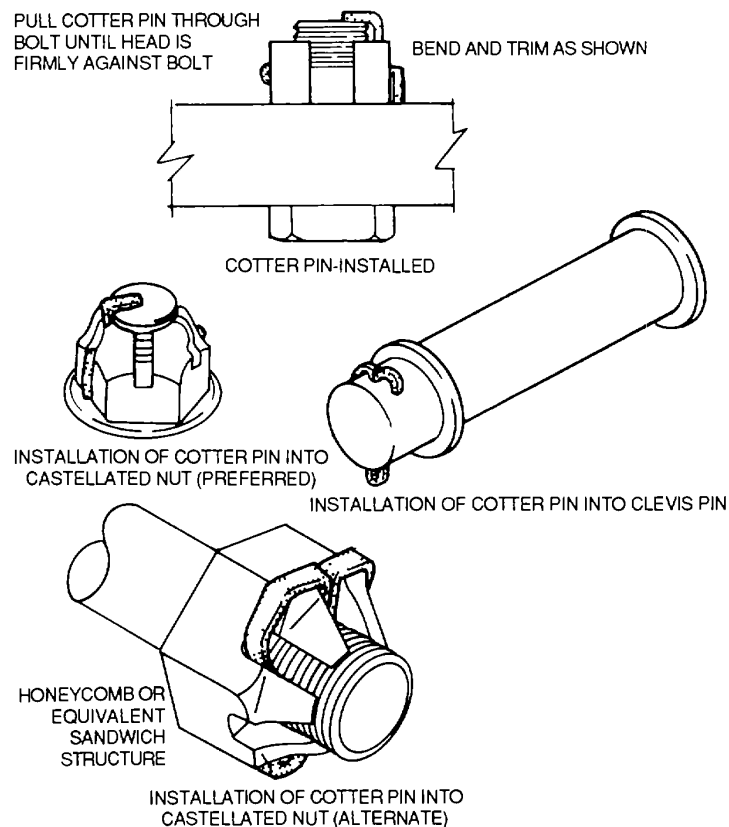

Figure 2-77. Cotter Pin Installation
- (1) Install cotter pin in castellated nuts and bolts with head parallel to slot in nut, as shown in figure 2-77. This is the preferred method.
- (2) Install cotter pin with head horizontal to slot in nut as an alternate installation, as shown in figure 2-77. This method will be followed where there is danger of snagging hands, clothing, or equipment of flight personnel on sharp ends of cotter pin or because of installation difficulties.
- (3) When safetying a clevis pin, install the cotter pin with the axis of the eye parallel to the shank of the clevis pin or rod end. Bend the prongs around the shank of the clevis pin or rod end, as shown in figure 2-77.